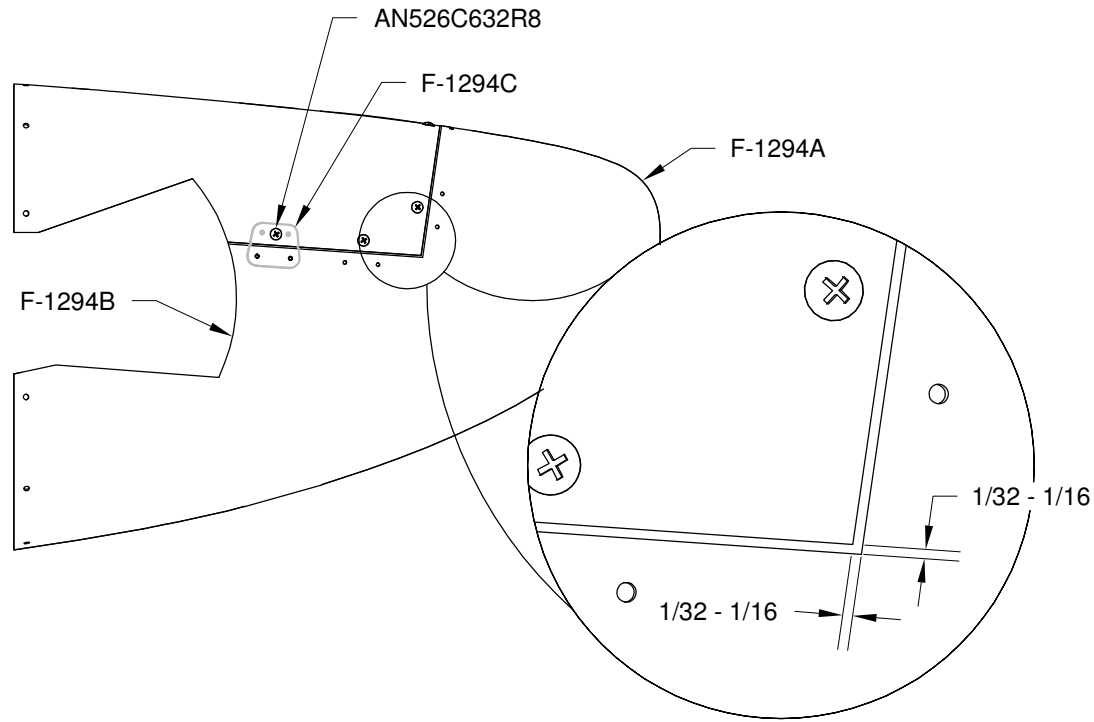

FIGURE 1:
Step 1: Cleco the F-1294C Tabs to the F-1294B Lower Tailcone Fairing. Temporarily screw the F-1294A Upper Tailcone Fairing to the tabs as shown in Figure 1.
Step 2: Mark, separate, then sand an even gap between the mating edges of the F-1294A & B Upper and Lower Tailcone Fairings per the dimensions given in Figure 1.